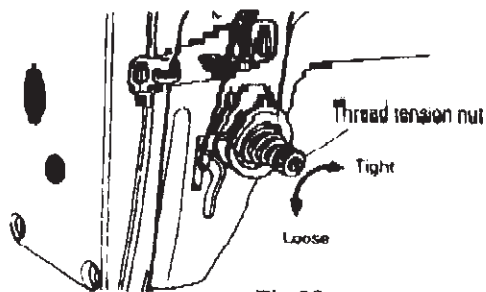

Fig.22
22. Upper thread tension (Fig.22):